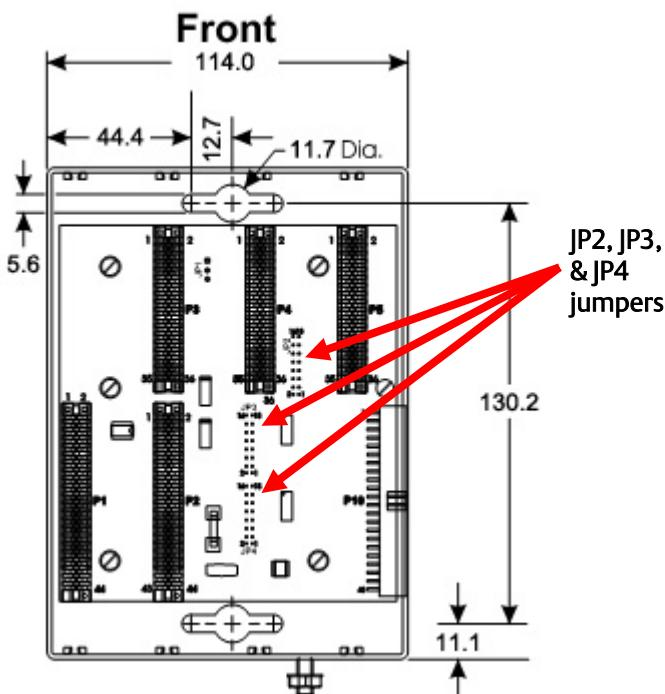

Figure 2. ControlWave Micro 4-Slot Base Housing Dimensions (in millimeters)
- **Base housing.** Position as desired on the enclosure mounting plate and locate mounting holes on the plate using the ControlWave Micro as a template. See *Figure 2* for dimensions. Drill and tap mounting holes in the plate. Position the ControlWave Micro over the tapped locations and attach to the plate with four screws (not provided). Torque the screws to approximately 1.1 to 1.4 N·m.
Note: If you are attaching an expansion housing to a 4-slot or 8-slot base housing, remove the three bus terminators (JP2, JP3, and JP4, shown on *Figure 2*) from the backplane of the 4-slot or 8-slot base housing.
Base housings have a ground lug (see *Figure 2*) that accommodates up to 5.19 mm (4 AWG) wire size. After you install the base and any expansion housings and **before** you install any modules in the base or expansion housings, you **must** run a ground wire between the base housing ground lug and a known good earth ground. All earth grounds must have an earth-to-ground rod or grid impedance of 2.0 ohms